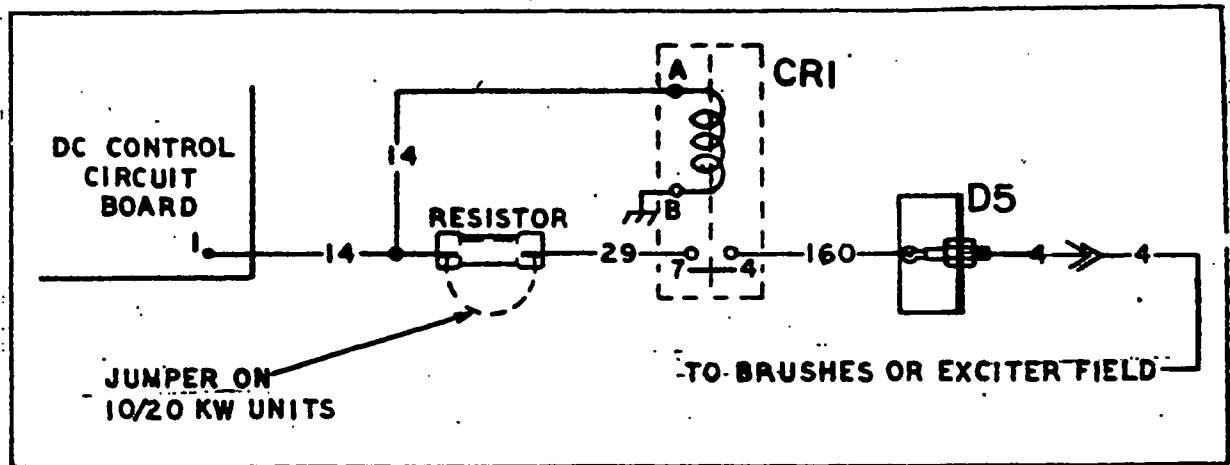

Figure 5.2-D. The Field Boost Circuit
#### 5.2.19- CHECK FIELD BOOST VOLTAGE (Figure 5.2-D)
(Figure 5.2-D)
**5.2.21- CHECK FIELD BOOST DIODE** (Figure 5.2-D)